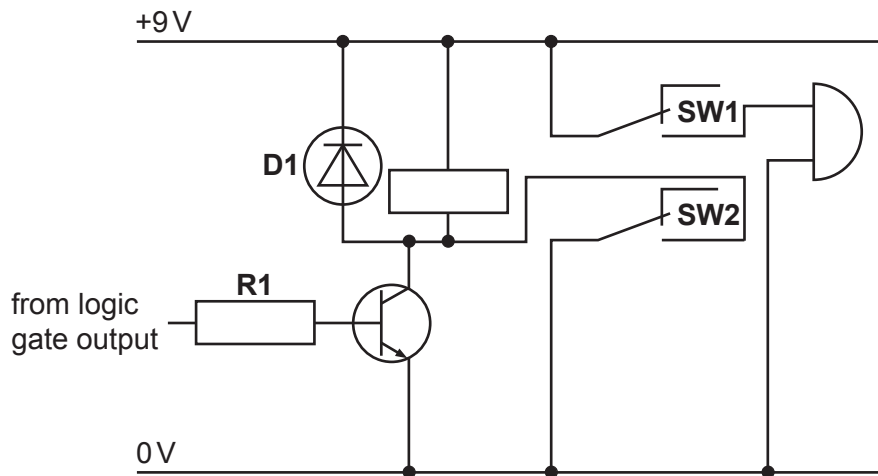

Fig. 12.5
- (iv) Fig. 12.5 shows the connections used to latch the output of the alarm on when the sensor is no longer activated.
Explain how the latch circuit in Fig. 12.5 works.
Circle a suitable position for a reset switch on Fig. 12.5.